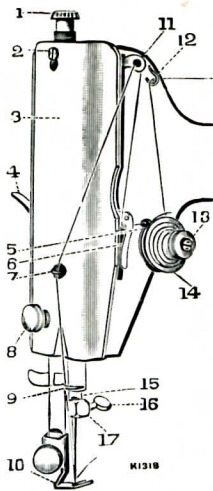

Fig. 3
(See Fig. 3).
Loosen the balance wheel, and place a reel of thread on the spool pin. Pass the end of the thread through the wire guide (12, Fig. 3), then into the lower eyelet (5) of the thread guide from below, and into the notch (2) at its top. Now thread the bobbin by passing the thread through the hole in its left disc from the inside, and with the left hand press it on to the bobbin winder spindle (1) and hold. Then, with the right hand, turn the small pulley (6) until the hole in the right disc of the bobbin is engaged by the pin in the spindle shoulder. Press the pulley against the ledge of the balance
Raise the take-up lever (11, Fig. 3) to its highest point, by turning the balance wheel towards you, and lift the presser foot; then move the material back and to the left, and sever the threads by passing them over the thread cutter above the presser foot. Leave the ends of the threads a few inches long under the presser foot.
For ordinary family sewing it is seldom necessary to change the pressure on the material. If sewing fine silk or flimsy material, lighten the pressure by giving the thumb screw (1, Fig. 3) two or three turns upwards. If it be found necessary to increase the pressure, give the thumb screw a few turns downwards.
All moving parts in contact must be covered with a film of oil **and not allowed to become dry.** Oil should always be applied at the points indicated by arrows in Figs. 13 and 14, a drop of oil being sufficient at any place. To oil the needle bar mechanism, remove the face plate (3, Fig. 3) by taking out the thumb screw (8, Fig. 3); then loosen the small screw (2, Fig. 3) and slip the plate up and over the latter. **It is most important that oil should be applied at the point marked "A" (Fig. 13) when the take-up lever (11, Fig. 3) is at its lowest point.** When oiling, insert the oil can spout well into the oil holes. Apply a drop of oil to the small piece of felt lubricating the oscillating hook and to the rollers at the right of the hook shaft.
The thread take-up spring (5, Fig. 3) being broken.
**Stitches Looping.**—This is regulated by the tensions (see page 11). See that both the bobbin case and the needle are properly threaded, that the thread used is of good quality and the correct size for the needle (see table on inside of back cover). See that the thread take-up spring (5, Fig. 3) is not broken.